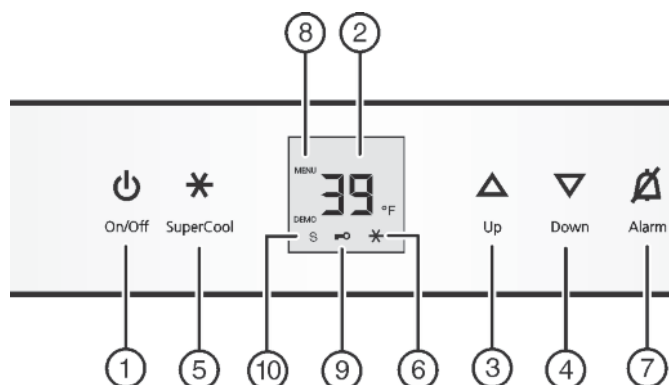

Fig. 3
- ▶ Press On/Off button Fig. 3 (1).
- ▶ Activate setting mode: Press SuperCool button *Fig. 3 (5)* for about 5 seconds.
- ▷ The SuperCool button *Fig. 3 (5)* will flash.
- ▶ Using Up button *Fig. 3 (3)*/ Down button *Fig. 3 (4)* select °.
- ▶ To confirm: Briefly press SuperCool button *Fig. 3 (5)*.
- ▶ Using Up button *Fig. 3 (3)*/ Down button *Fig. 3 (4)* select °F or °C.
- ▶ To exit setting mode: Press On/Off button *Fig. 3 (1)*.
- ▶ Select setting mode: Press and hold the SuperCool button *Fig. 3 (5)* for approx. 5 seconds.
- ▷ The Menu symbol *Fig. 3 (8)* lights up.
- ▶ Using the Up *Fig. 3 (3)* or Down button *Fig. 3 (4)*, select c.
- ▶ Press the SuperCool button *Fig. 3 (5)* briefly to confirm. When c1 is shown on the display:
- ▶ To switch on the child proof lock, press the SuperCool button *Fig. 3 (5)* briefly.
- ▷ The Child safety symbol *Fig. 3 (9)* lights up. c flashes on the display. When c0 is shown on the display:
- ▶ To switch the child proof lock off, press the SuperCool button *Fig. 3 (5)* briefly.
- ▷ The Child safety symbol *Fig. 3 (9)* goes out. c flashes on the display.
- ▶ To deactivate setting mode: Press the On/Off button *Fig. 3 (1)*.
- ▶ Press Alarm button *Fig. 3 (7)*.
- ▶ To activate setting mode: Press and hold the SuperCool button *Fig. 3 (5)* for approx. 5 s.
- ▶ To access the Sabbath mode function: Briefly press the SuperCool button *Fig. 3 (5)*.
- ▶ To turn on Sabbath mode, briefly press the SuperCool button *Fig. 3 (5)*.
- ▶ To turn off Sabbath mode, briefly press the SuperCool button *Fig. 3 (5)*.
- ▷ The Sabbath Mode symbol *Fig. 3 (10)* appears on the temperature display as long as Sabbath Mode is active.